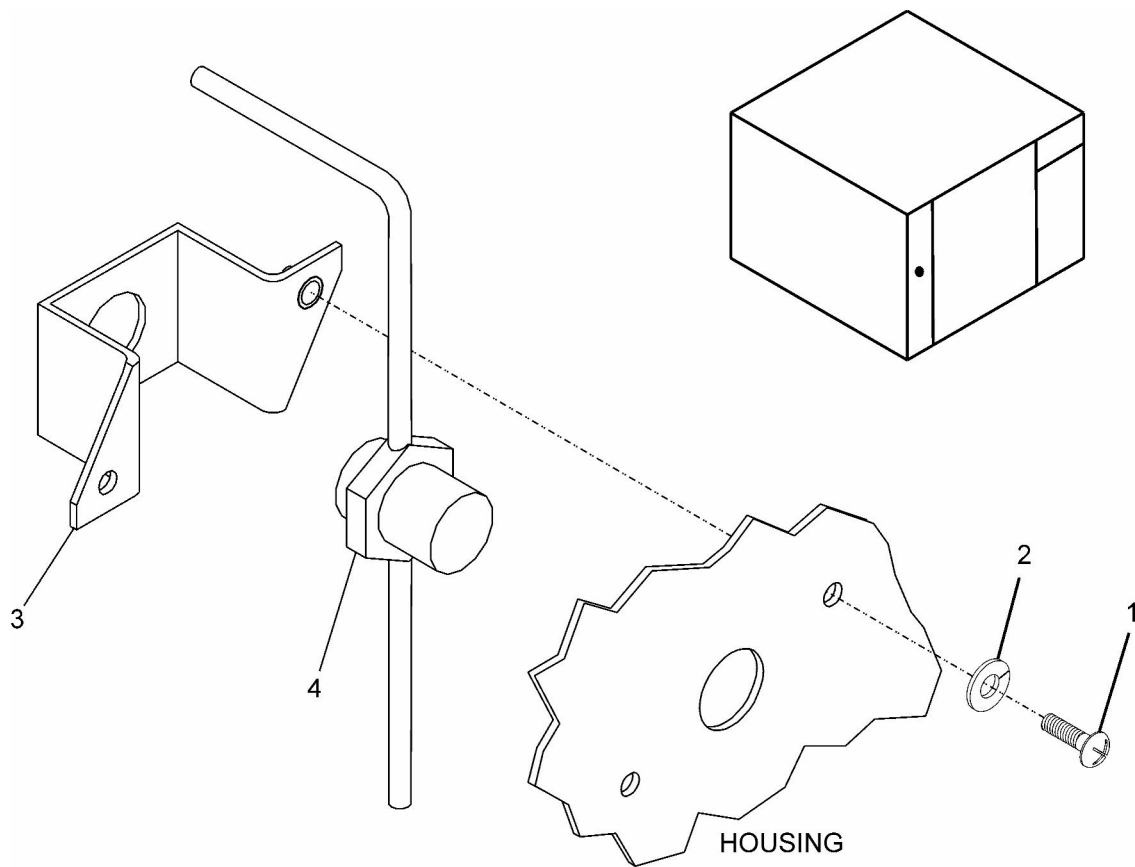

Figure 1. Liquid Sight Indicator
1. Remove two screws (1), washers (2) and mounting bracket (3) to release the liquid sight indicator (4) from rear of housing. See figure 1.
2. With a steady flow of dry nitrogen through refrigeration system, debraze liquid sight indicator (4) from condenser coil and attached tubing (see WP 0050 00 and WP 0051 00).
3. Remove liquid sight indicator (4) from unit housing.